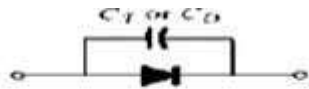

Figure 1.38 Including the effect of the transition or diffusion capacitance on the semiconductor diode.
(CT), while in the forward-bias region we have the diffusion (CD) or storage capacitance. Recall that the basic equation for the capacitance of a parallel-plate capacitor is defined by  $C = \epsilon A/d$ , where  $\epsilon$  is the permittivity of the dielectric (insulator) between the plates of area  $A$  separated by a distance  $d$ . In the reverse-, bias region there is a depletion region (free of carriers) that behaves essentially like an insulator between the layers of opposite charge. Since the depletion width ( $d$ ) will increase with increased reverse-bias potential, the resulting transition capacitance will decrease. The fact that the capacitance is dependent on the applied reverse-bias potential has application in a number of electronic systems. Although the effect described above will also be present in the forward-bias region, it is over shadowed by a capacitance effect directly dependent on the rate at which charge is injected into the regions just outside the depletion region. The capacitive effects described above are represented by a capacitor in parallel with the ideal diode, as shown in Fig. 1.38. For low- or mid-frequency applications (except in the power area), however, the capacitor is normally not included in the diode symbol.